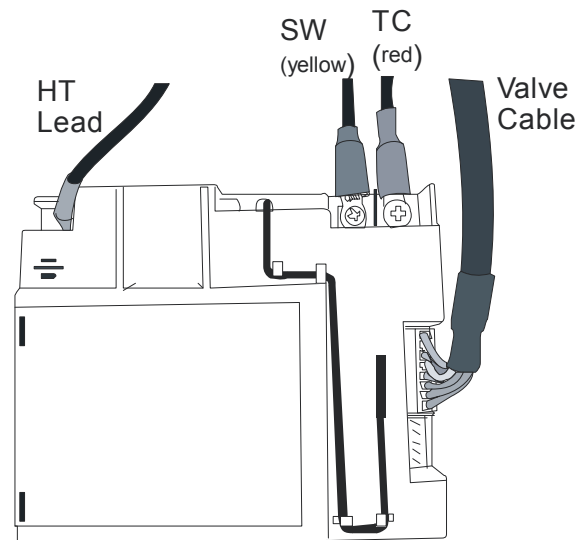

Figure 68
3. Feed the cables from the valve through the heat shield and connect to the receiver as shown in **Figure 68**, keeping the cables clear of the underside of the tray. Do not force the valve cable when inserting into the receiver – it only fits one way.